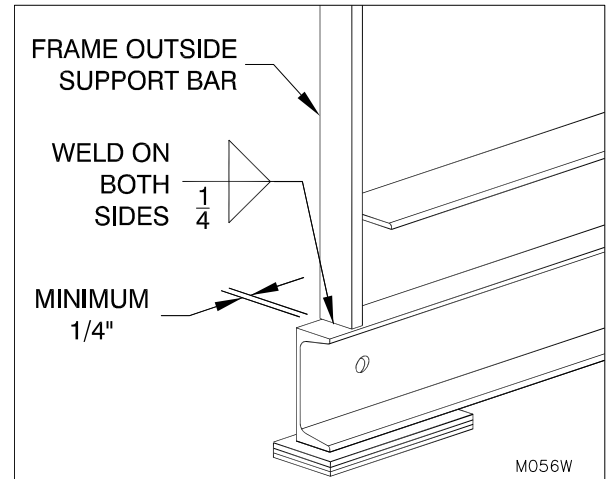

Figure 23: 30,000 lb + Outer Rear Shims (4" Shim Kit Channel Shim Shown)
19. ___ For 30,000 HD models and higher capacities, weld the additional two rear shims to the outside support bar of the frame as shown in "Figure 23: 30,000 lb + Outer Rear Shims (4" Shim Kit Channel Shim Shown)" on page 17 and shim until they are fully supported. Weld all of the shims to each other as well as to the dock leveler frame.
21. ___ For 30,000 HD models and higher capacities, weld the additional two rear shims to the outside support bar of the frame as shown in “Figure 23: 30,000 lb + Outer Rear Shims (4” Shim Kit Channel Shim Shown)” on page 17 and shim until they are fully supported. Weld all of the shims to each other as well as to the dock leveler frame.